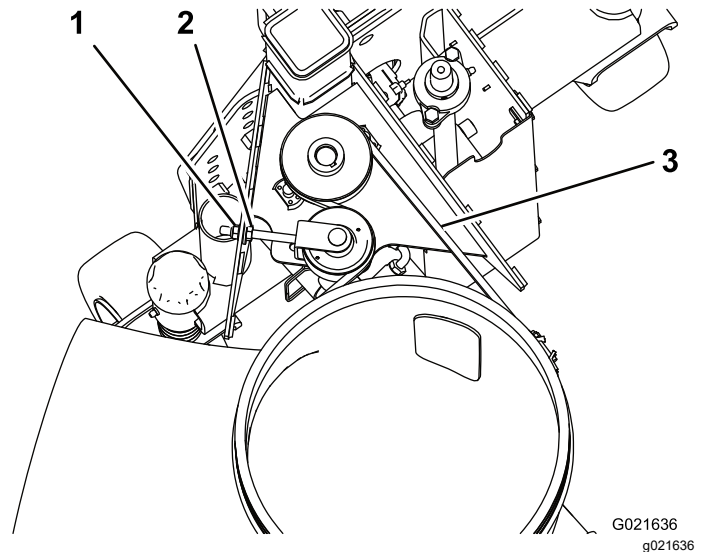

Figure 28
1. Press the belt, at the center of the longest span, with 30 N·m (22 lb) of force (Figure 28).
3. Loosen the hex nut and tighten the flange nut to increase the belt tension (Figure 28).